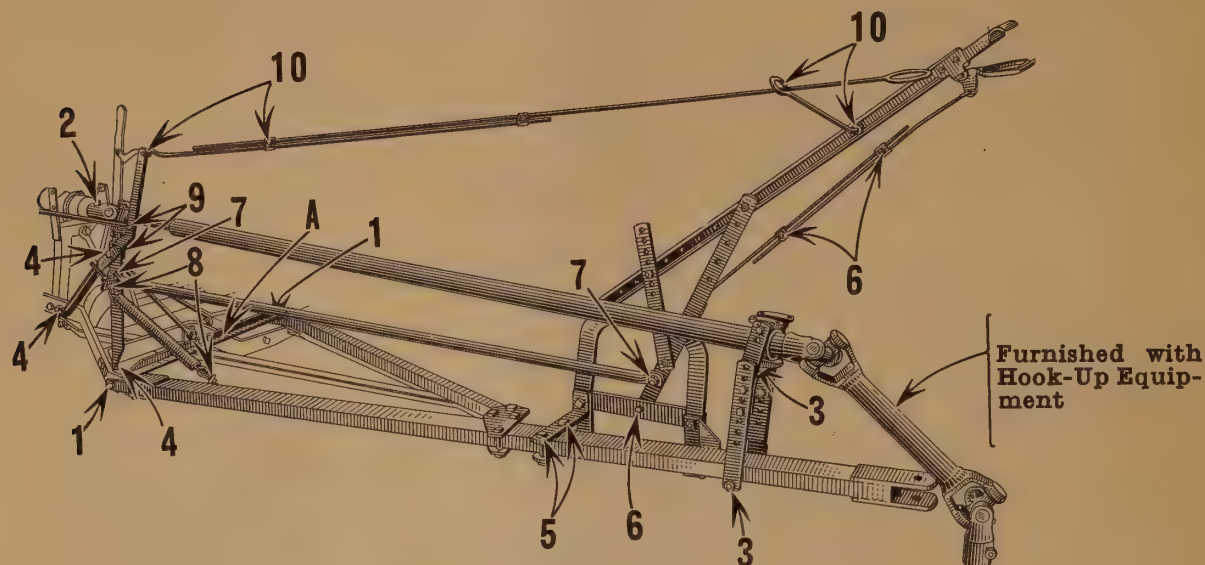

Fig. 6
1. (Fig. 6.) Bolt hitch to binder main frame—bolt cross angle “A” on top of hitch as shown.
2. (Fig. 6.) Set power drive shaft assembly onto tractor hitch. Slide splined universal joint at rear of power shaft onto splined drive shaft on binder frame. Secure universal in place with cotter and clamp bolt.
3. (Fig. 6.) Attach front bearing lower support bracket to tractor hitch as shown. Secure front bearing upper support bracket to lower support bracket with special shoulder bolt as shown.
4. (Fig. 6.) Bolt tilting frame to front of main frame front sill. Angle brace bolts to outside of lever frame.
5. (Figs. 6 and 7.) Bolt tilting sector to tractor hitch.
6. (Figs. 6 and 7.) Attach tilting lever to sector with pin and cotters. **Be sure dogs on tilting lever fit into notches in tilting sector.** Hook detent rod into detent on lever frame. Detent rod is adjustable when lever is changed for convenience of operator.
7. (Fig. 6.) Bolt tilting lever connecting link pipe to tilting lever and to tilting frame upright angle on binder main frame.
8. (Fig. 6.) Place binder balancing spring in position shown and adjust so binder tilts easily.
9. (Fig. 6.) Hook bundle carrier clutch shifter arm into shifter rod on binder and bolt shifter arm to the inside of tilting lever frame upright angle—offset of arm goes toward gatherers.
10. (Fig. 6.) Hook bundle carrier shifter rod into clutch shifter arm on tilting lever frame and bolt shifter rod support to tilting lever—rod is adjustable for convenience of operator. Set loop end of shifter rod support up or down for convenience of operator.